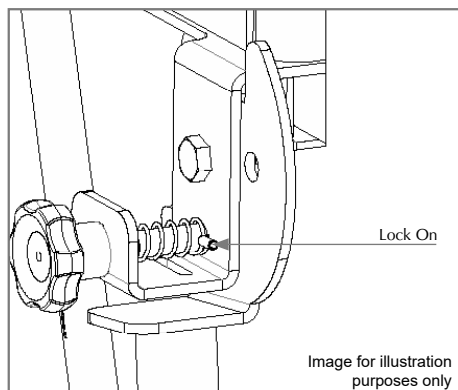
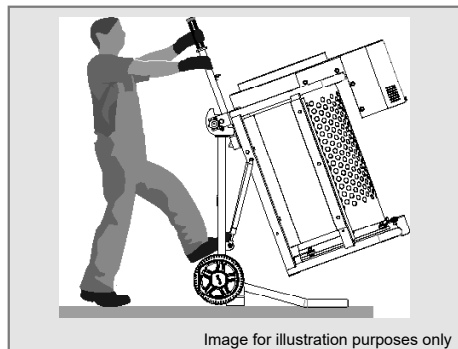

Figure B-1
Figure C-1
- ✓ After releasing the two locks, as shown in Figure B-1, support one of the feet on the support bar in front of the wheel and slowly suspend the drum setting (Figure C-1).
- ✓ Once in position, engage the locking position on the drum assembly to decrease the damper pressure and to facilitate the locking and unlocking position, manually aid to raise or lower the drum to match the locking holes with the machine off, as shown in Figure B-1.